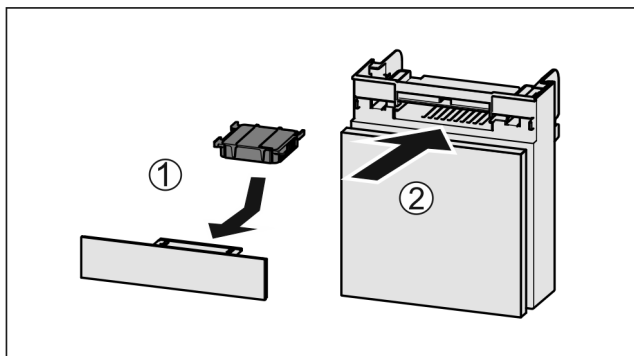

Fig. 97
- Insert the carbon filter as shown in the diagram Fig. 97 (1).
- Push the compartment in Fig. 97 (2).